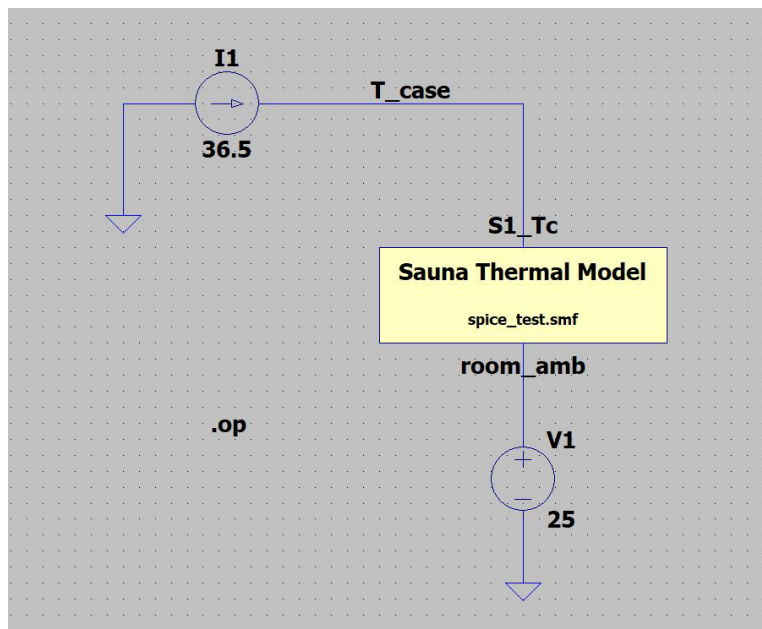

Figure 7: First LTspice schematic
You will start by creating the very simple schematic shown in Figure 7. With this circuit, you will be able to verify that LTspice and Sauna produce the same result.
If you are an experienced LTspice user, just go ahead and create the circuit shown in Figure 7.
5. Click the Component icon again. Scroll to the left and select current, then click the Place button. Prior to final placement, use `<Ctrl>-r` to rotate the current source. Then move to the position shown in Figure 7 and click. Hit `<Esc>` or right-click to stop placement. **For LTspice, wattage is represented as an electrical current.**
7. Figure 7 shows 2 grounds. Click the Ground icon and place the grounds in the appropriate position. When finished, hit `<Esc>` or right-click.
10. Finally, note that the letters ".op" are shown in the lower-left of Figure 7. This is known officially as a Spice directive but is generally referred to as a dot command (much easier to say). The .op command tells LTspice to perform a DC analysis (operating point), the equivalent of a steady state thermal analysis. Click the dot command icon and enter .op in the box, then click OK. Place the command in the appropriate location.